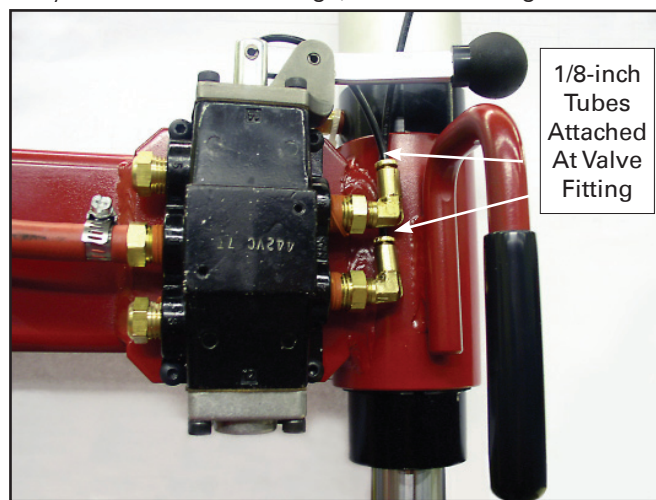

Figure 13 - Connect nylon tubes.
13. Connect 1/8-inch nylon tubes from robo cylinder to cylinder arm valve fittings, as shown in figure 13.d